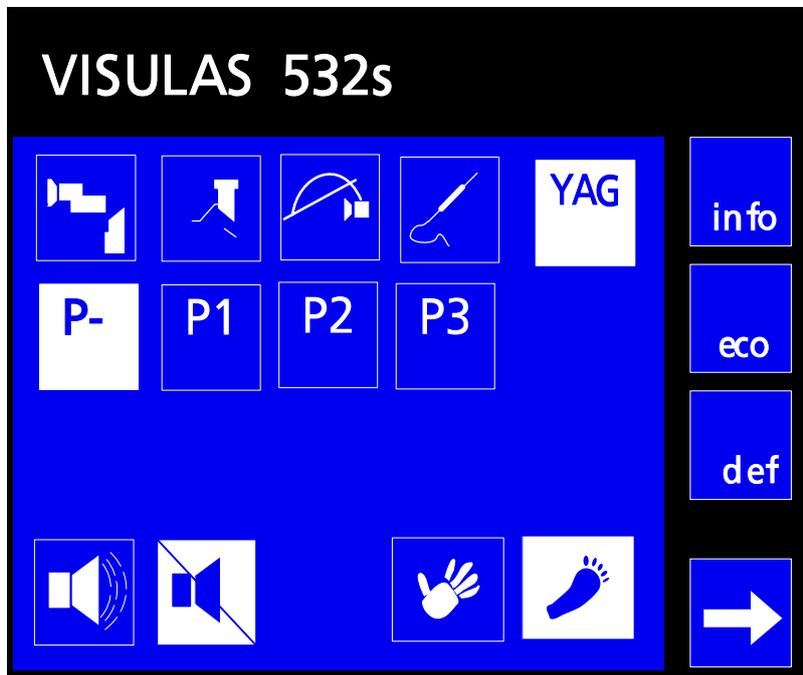

Fig. 26 . Main menu
- When the system test has been successfully completed, the program switches to the **main menu** (Fig. 26).